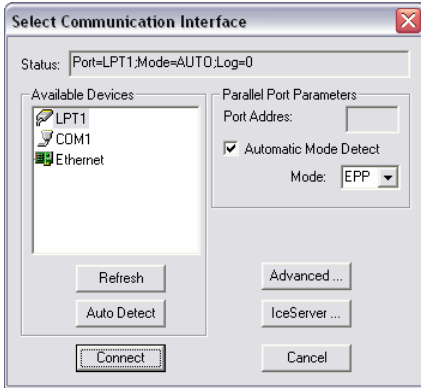

FIGURE 4 Selecting communication parameters manually.
- The Specify Connection Port and Parameters method** allows you to modify the default connection parameters, such as the port, mode or port address, depending on the current emulator type. See Figure 4.